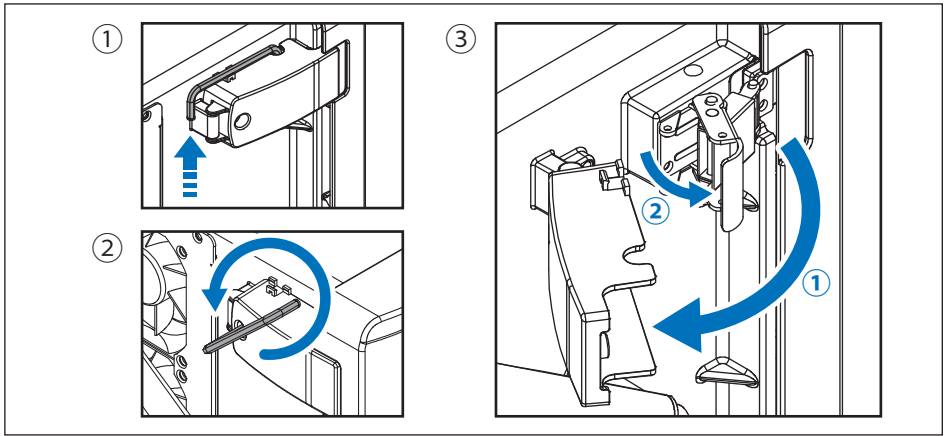

Figure 5-1: Open the door
1. Use the 4mm hexagon wrench to loose the screw of the protection cover, and then release the latch locks (**Figure 5-1**).